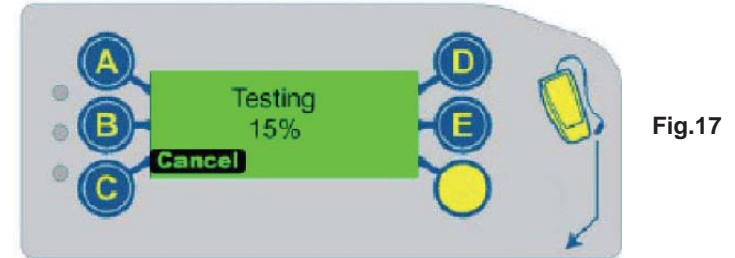

Fig.17
- Once the set up menu has been accessed, use the D or E button (highlighted arrows) to scroll to the Test screen. Press the yellow mode button (highlighted "Select") to run the auto test feature. The Coin Manager will commence testing, displaying a % complete indicator followed by the test results. See Figure 17